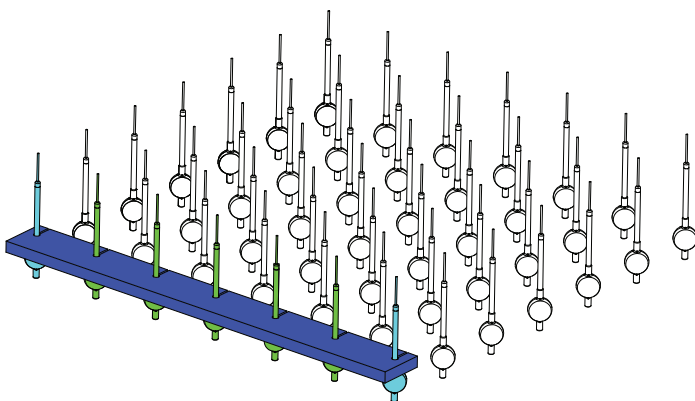
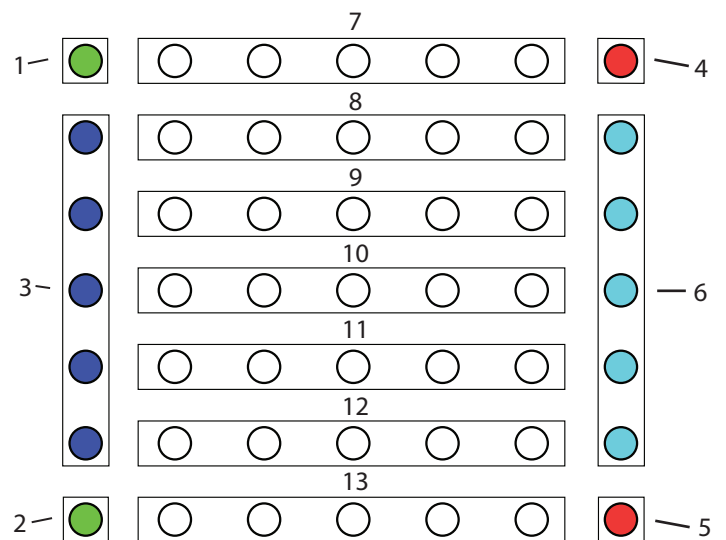

Fig. 1c
Fig. 1d
13. Fig. 1c: Rest the Leveling Block between the two completed sides and use it as a guide to adjust all other drops. Fig. 1d shows the complete order of adjustment.